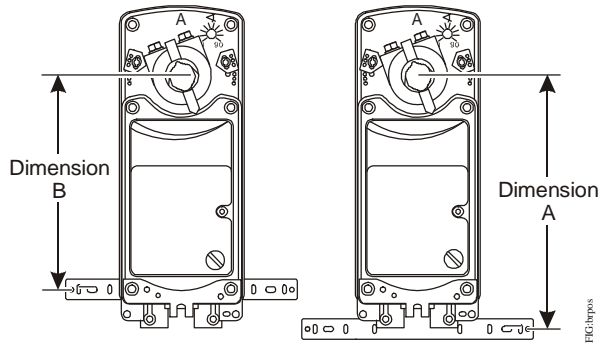

Figure 5: Positioning the Anti-Rotation
- See the dimensions in Figure 5 and Table 2 to ensure the correct positioning of the anti-rotation bracket.
- Drill mounting holes in the damper frame or duct using the anti-rotation bracket as a guide (based on the measurements obtained in Table 2 and Figure 5).